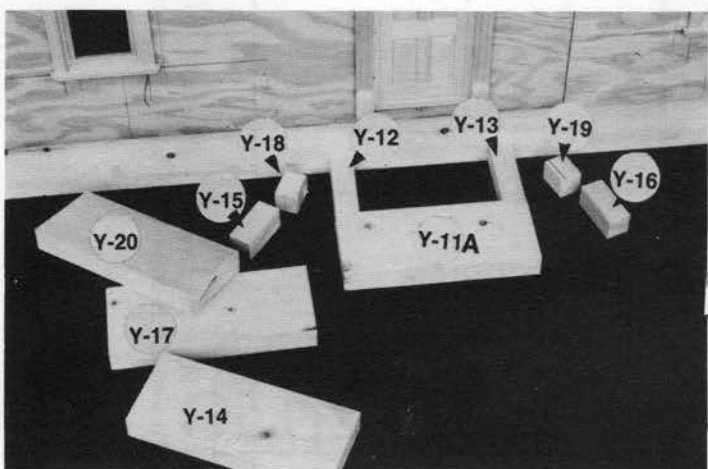

Fig. 4
STEP 4: Begin assembly of the front entrance steps by attaching Y-12 and Y-13 to Y-11A using hot glue and no nails. (Do not attach this assembly to the house). (FIGURE 4).